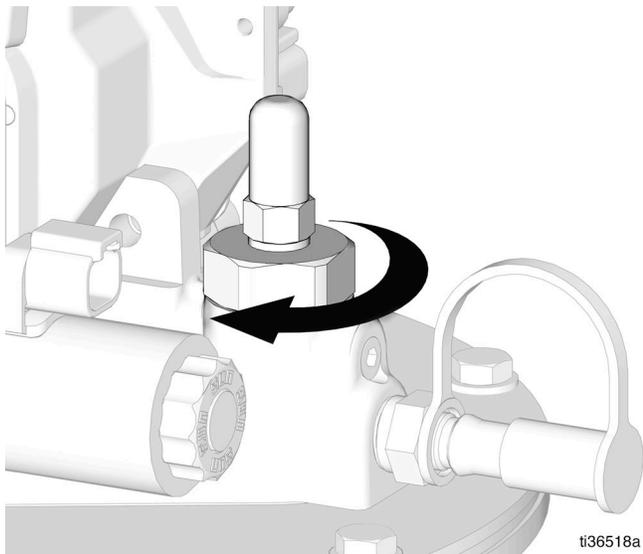

FIG. 7
- 7. Tighten the Compact Dyna-Star Auto-Fill Shut Off cartridge (torque 45-55 ft-lb/61-74.5 N•m) (FIG. 7).